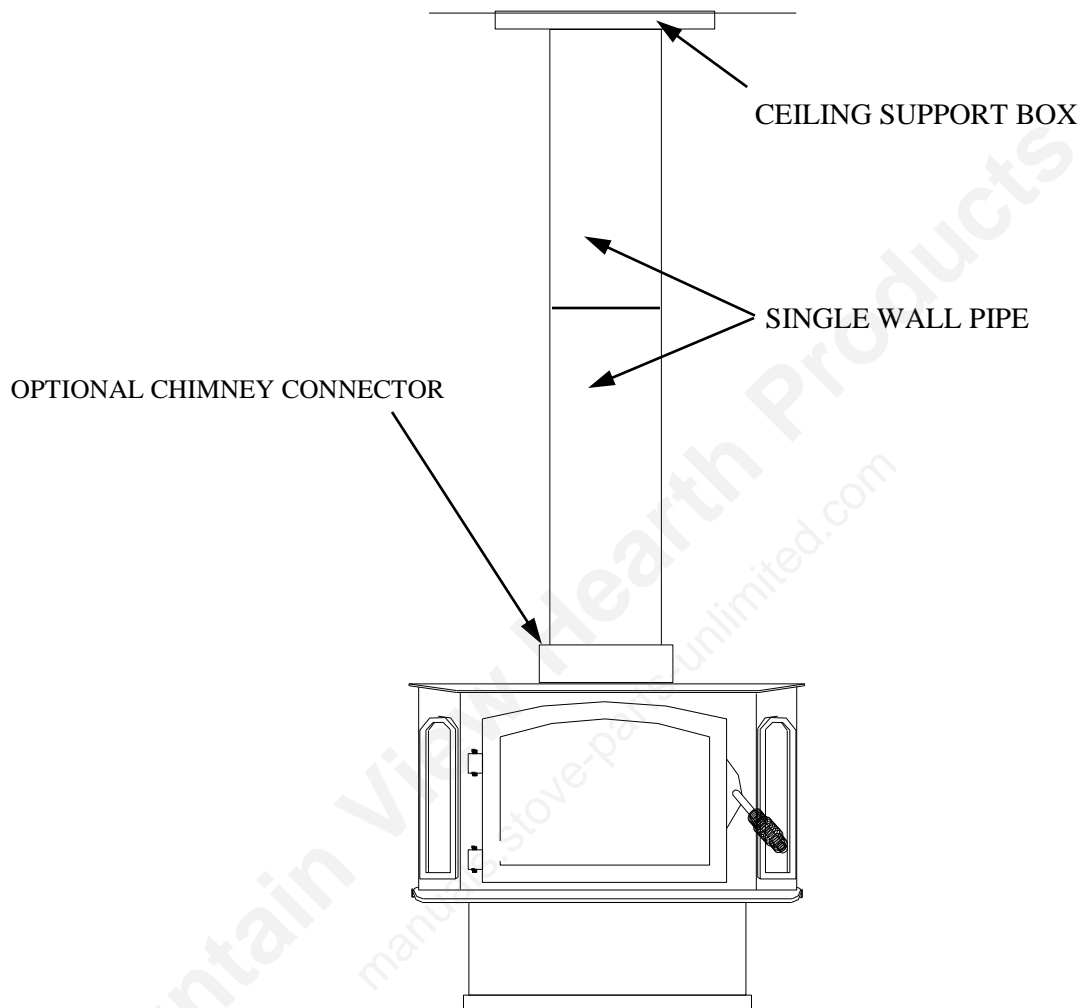

Figure 9
3. Next, install an optional New Buck Corporation chimney connector to flue exit of heater or you may use "EII" brackets to fasten pipe to stove. See (Page 23, Figure 9).